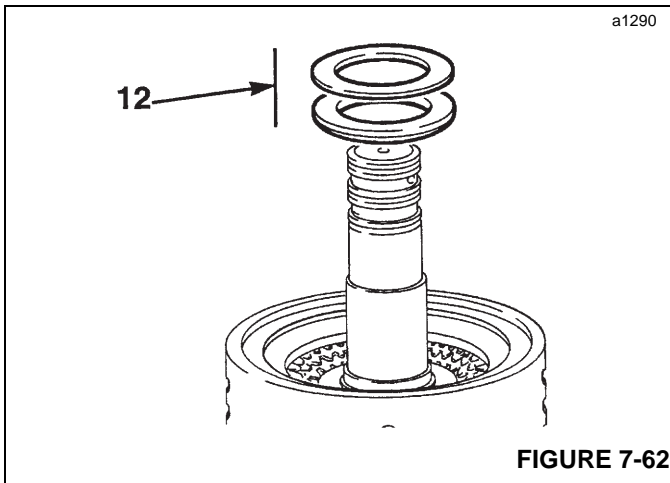

FIGURE 7-62
12. Install thrust washer and plastic type washer (12, Figure 7-62).